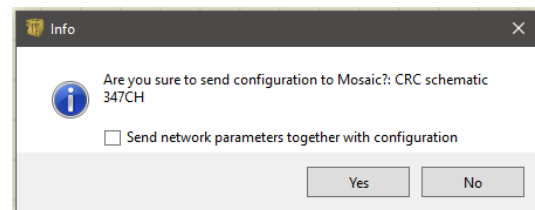

Figure 118 - MOSAIC M1S COM
- ➔ MOSAIC M1S COM only: you can also send the network parameters to Mosaic by selecting the tick in "Figure 118 - MOSAIC M1S COM".